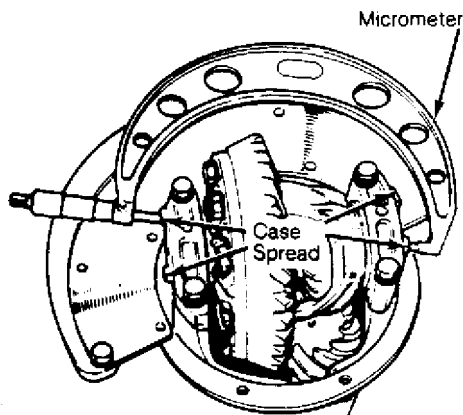

Fig. 7: Adjusting Differential Bearing Preload (Case Spread)
1) Place differential case assembly into carrier making sure index marks on ring and pinion gears are aligned. See Fig. 7. Install bearing adjusters and bearing caps, then tighten bearing cap nuts or bolts finger tight.